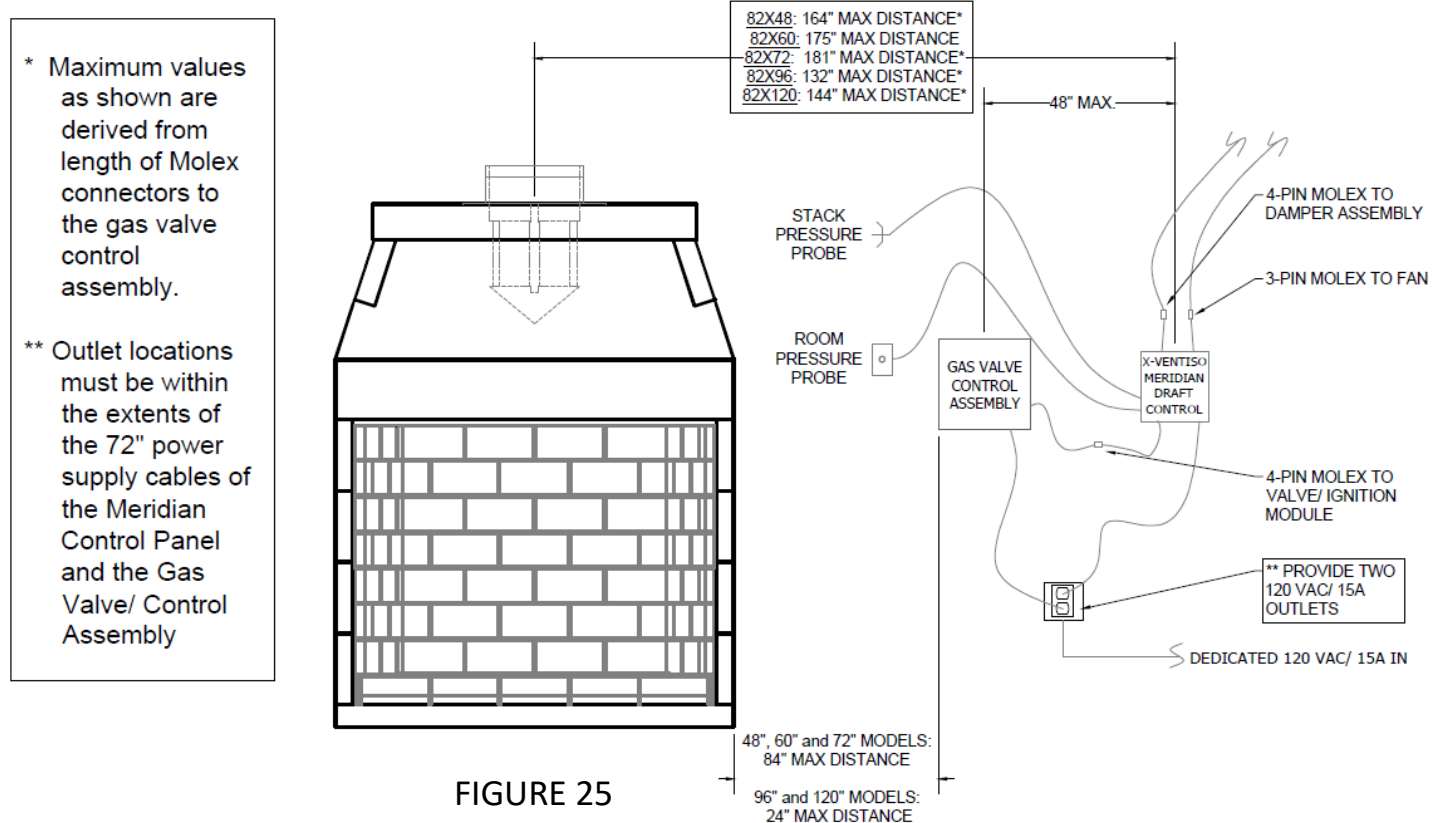

FIGURE 25
NOTE: the Isoflames XL Burner’s gas valve control box location is also dependent upon the fireplace model/ burner size. It must be located within 84” of the sidewall of the firebox for the 48”, 60”, and 72” XCELUX and within 24” for the 96” and 120” XCELUX (Figure 25).
- 3) Connect the top port of the Meridian Control Panel's pressure ports with the supplied tubing to the "Stack Pressure" vent probe (**Figure 25, 26 & 27**). This will be connected to the chimney at a location 12" above the anchor plate.
- 4) Connect the lower port of the Meridian Control Panel's pressure ports with the supplied tubing to the "Room Pressure" probe/ cover plate (**Figure 25, 26 & 27**). The other end will be connected in a suitable location in the room in which the fireplace is installed. This location must be in the same pressure zone as the fireplace opening, and within reach of the supplied tubing's connection to the X-VENTISO Meridian Draft Control Panel. Do not locate sensor in close proximity to exterior doors, opening windows, supply air diffusers, or other know air disturbances. The tubing measures 20ft.